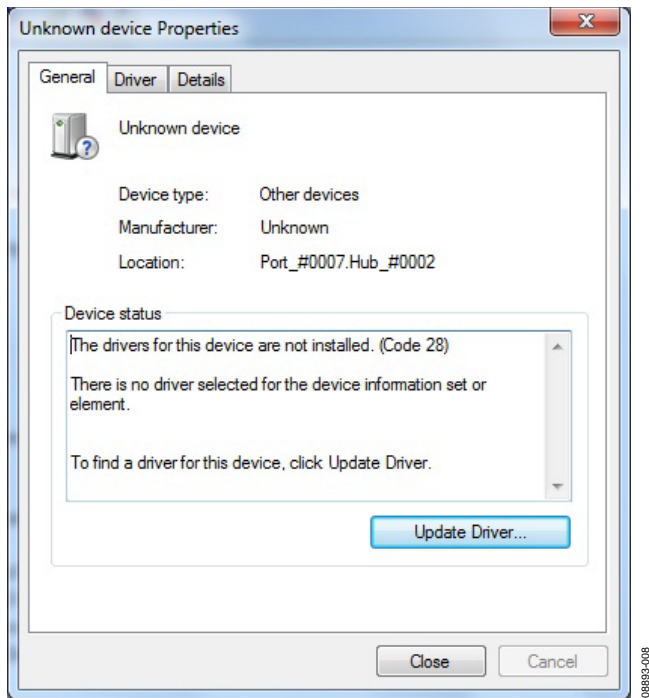
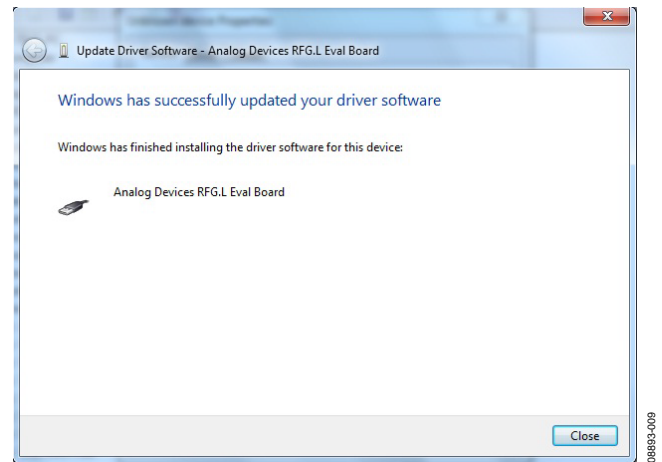

Figure 8. Unknown Device Properties
Figure 9. Successful Installation
| Added Figure 8 and Figure 9.....   | 6 |
- Click **Update Driver** in the properties window (see Figure 8).
- If the installation is successful, the message in Figure 9 appears.